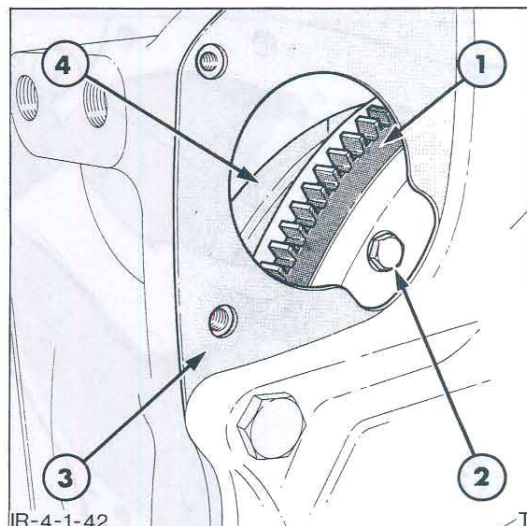

Figure 43
4. Working through the starting motor aperture, Figure 43, install the attaching bolts and washers finger tight. Rotate the flywheel as required until all eight bolts and washers are installed.